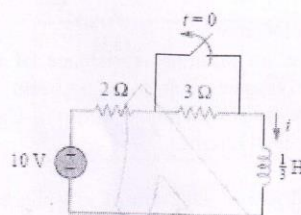

Figure: 1
- b) Find  $i(t)$  in the circuit in figure 1 for  $t > 0$ . Assume that the switch has been closed for a long time.